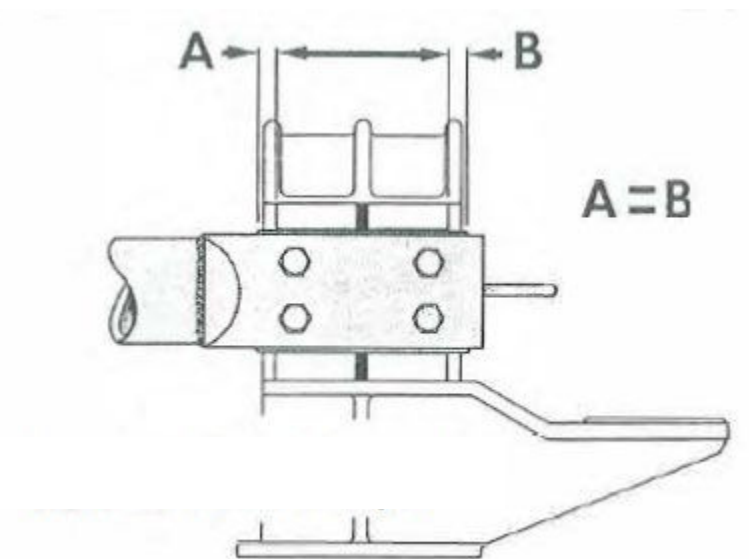

Figure 11: Blade Tips Centered in Fingers
- 2.1.2. The blade tips should enter the jaws centrally, without dragging on either contact surface. Misalignments can be corrected by jacking the jaw up or down with the jack screws. See **Figure 11**.